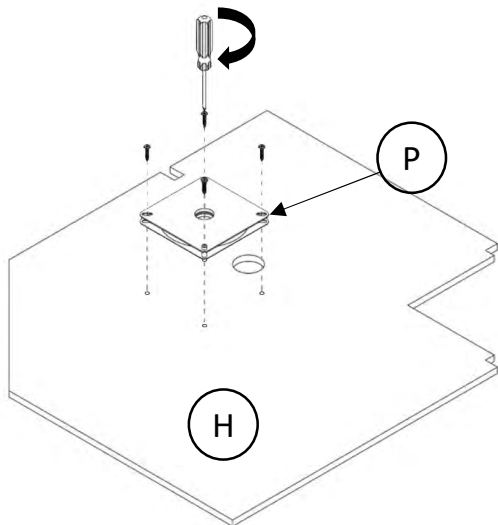

Figure 1
Attach the turntable hardware (P) with screws (e) onto the bottom panel (H) using the pre-drilled holes. Then attach the turntable (J) onto hardware (P). (Figure 1)